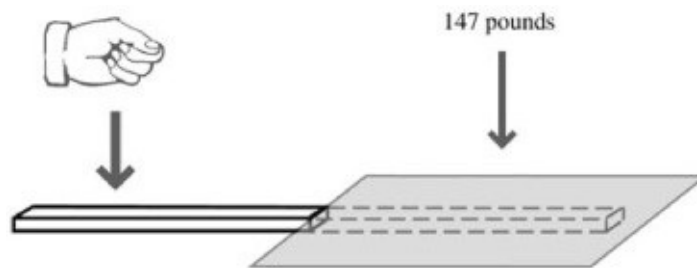

Figure 37-1 *Breaking a board with only air pressure holding the other side down.*
3. Using your best Maxwell Smart karate chop, strike the wood. Hit it hard enough to break the wood. Show it no mercy (Figure 37-1).